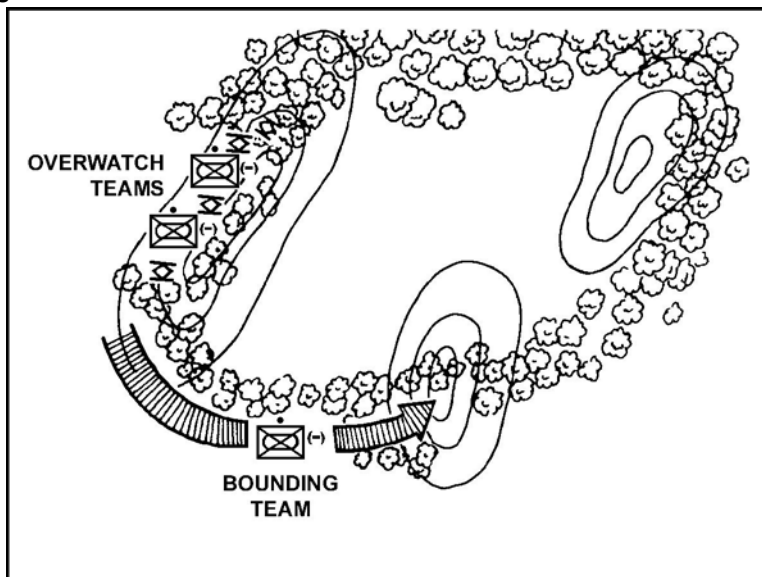

Figure 5. Dismount element--bounding Overwatch.
- c. Use the bounding overwatch technique when contact is expected and the terrain will not permit mounted movement, or when the dismount element is separated from the fighting vehicle element (Figure 5). This is the most deliberate and cautious of the movement techniques. The platoon leader directs the overwatching force to cover the progress of the bounding force from a covered, concealed position offering observation and fields of fire against likely enemy positions. The overwatching force must be able to immediately support the bounding force by providing suppressive fire and maneuver if the bounding force makes contact. The bounding force moves forward to a preselected position covered by the overwatching force. It secures the new position so that the overwatching force can then move forward. The length of each bound is tied to the observation, fields of fire, and range of weapons of the overwatching force.